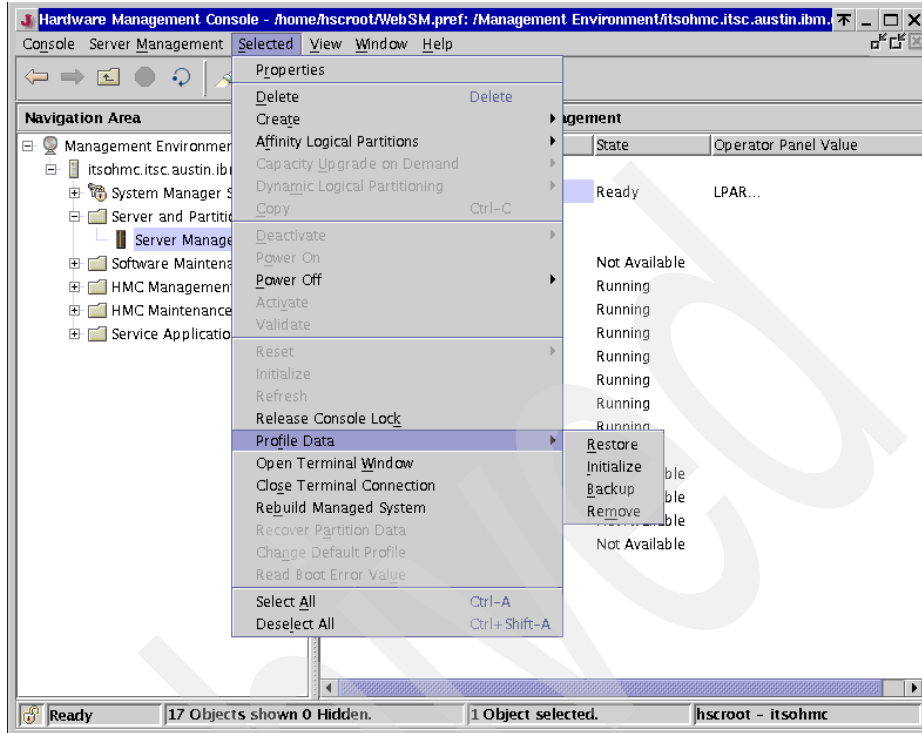

Figure 5-1 Profile Data submenu
These operations can be selected from the **Selected** → **Profile Data** menu as shown in Figure 5-1 on page 101.
5. Select the appropriate operation in the submenu, as shown Figure 5-1 on page 101.